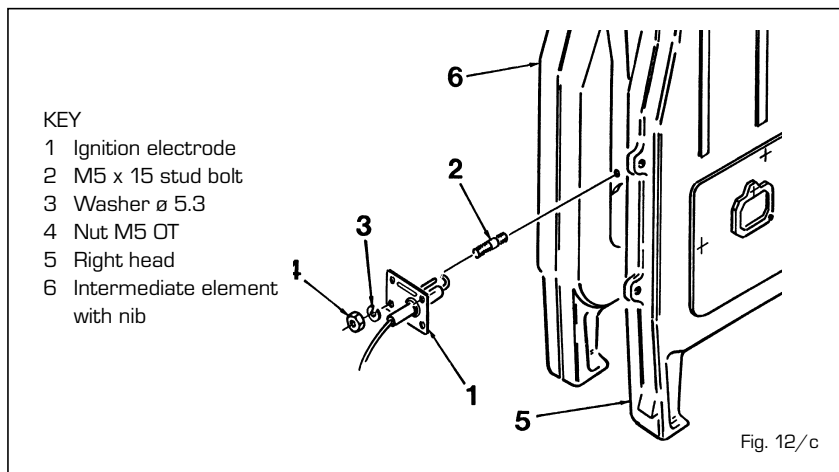

Fig. 12/c
Connect the gas assembly to the burner manifold as shown in fig. 12. The gas assembly may be assembled on the right or left side of the manifold.
2.13 ASSEMBLING THE CONTROL PANEL (fig. 12/a)
2.14 ASSEMBLING THE ELECTRICAL PANEL (fig. 12/b)
coil. Unwind the cables of the ignition and detection electrodes emerging from the electrical panel. Insert the ignition electrode in the hole between the head and the intermediary on the gas assembly side, anchoring it to the two stud bolts (fig. 12/c). Perform the same operation on the detection electrode, which will go in the hole provided between the head and the intermediary at the other end of the body.